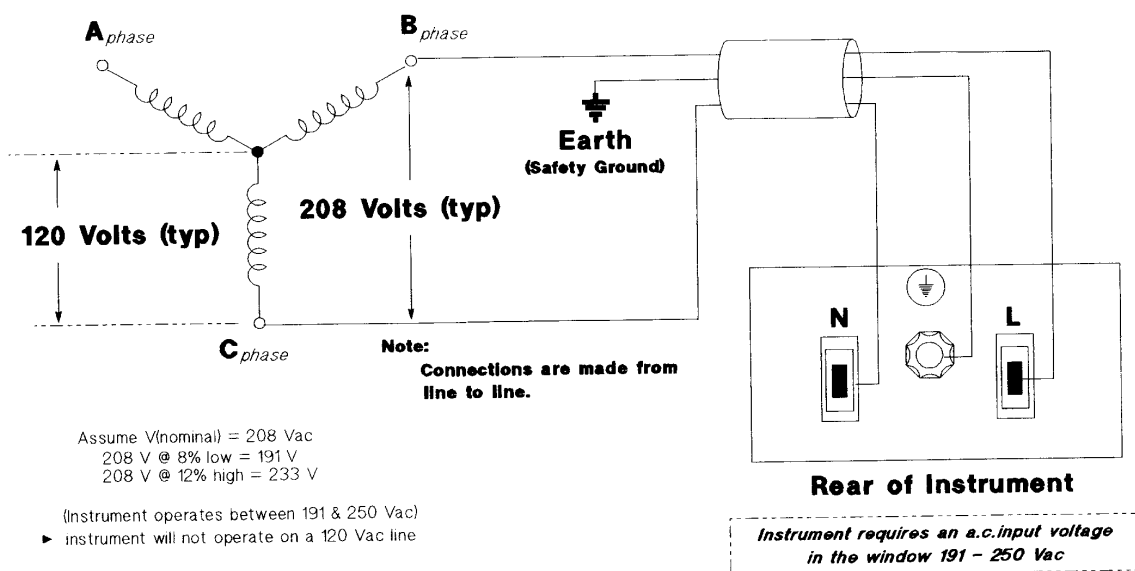

Figure 2-3. 667xA Connection to a 3-Phase Line
1. If they are not already in place, position the strain relief connector (11), safety cover (5), rubber boot (9), and connector nut (8) on the power cord (7).
2. Secure the ground wire (2) to the chassis earth ground stud.
3. For single-phase operation, connect the neutral wire (1) to the N input terminal and the line wire (3) to the L input terminal (this line is fused inside the supply).
4. For line-to-line operation from a three-phase source as shown in Figure 2-3, connect one phase to the N input terminal and another phase to the L input terminal (this line is fused inside the supply).